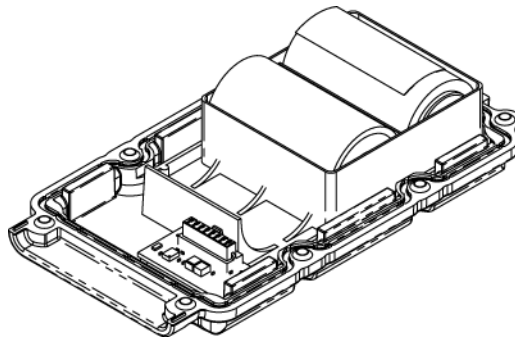

Figure 5 Battery Pack Assembly
- 4) The battery pack for the ME406P ELT consists of two "D" size lithium manganese dioxide cells connected in series. To prevent the cells from being charged, diodes and fuses are connected to the inline power from each cell. The fuses also protect from high output. See Figure 5 Battery Pack Assembly.